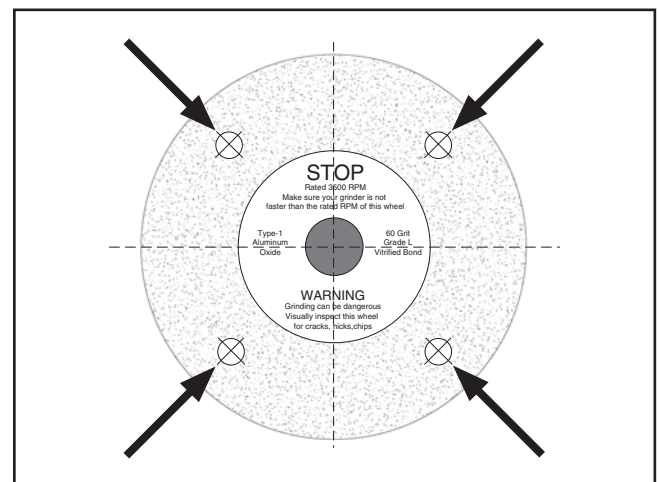

Figure 39. Tapping locations when performing a ring test.
3. Hang wheel in air with a piece of cord or string looped through wheel bore (see **Figure 39**).
4. At locations shown with an arrow in **Figure 39** gently tap wheel with a light non-metallic device such as handle of a screwdriver or a wooden mallet.